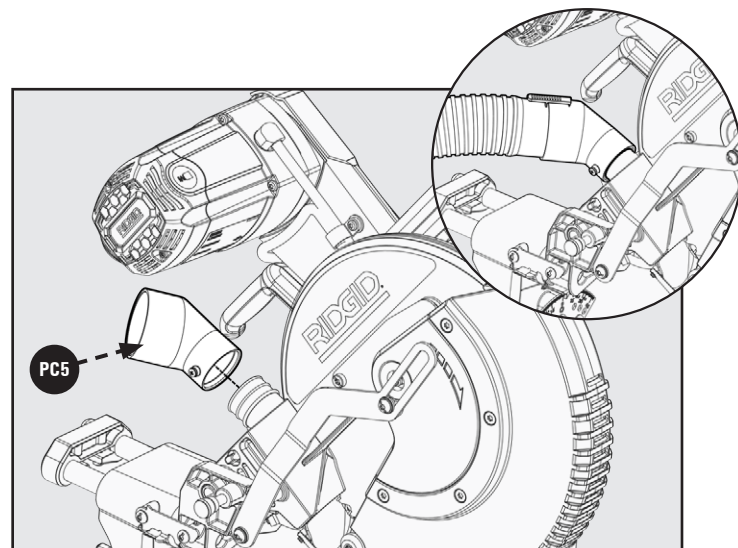

Figure 7
1. Install the dust port adapter and tighten the set-screw using a Phillip's head screwdriver, as seen in Figure 7.